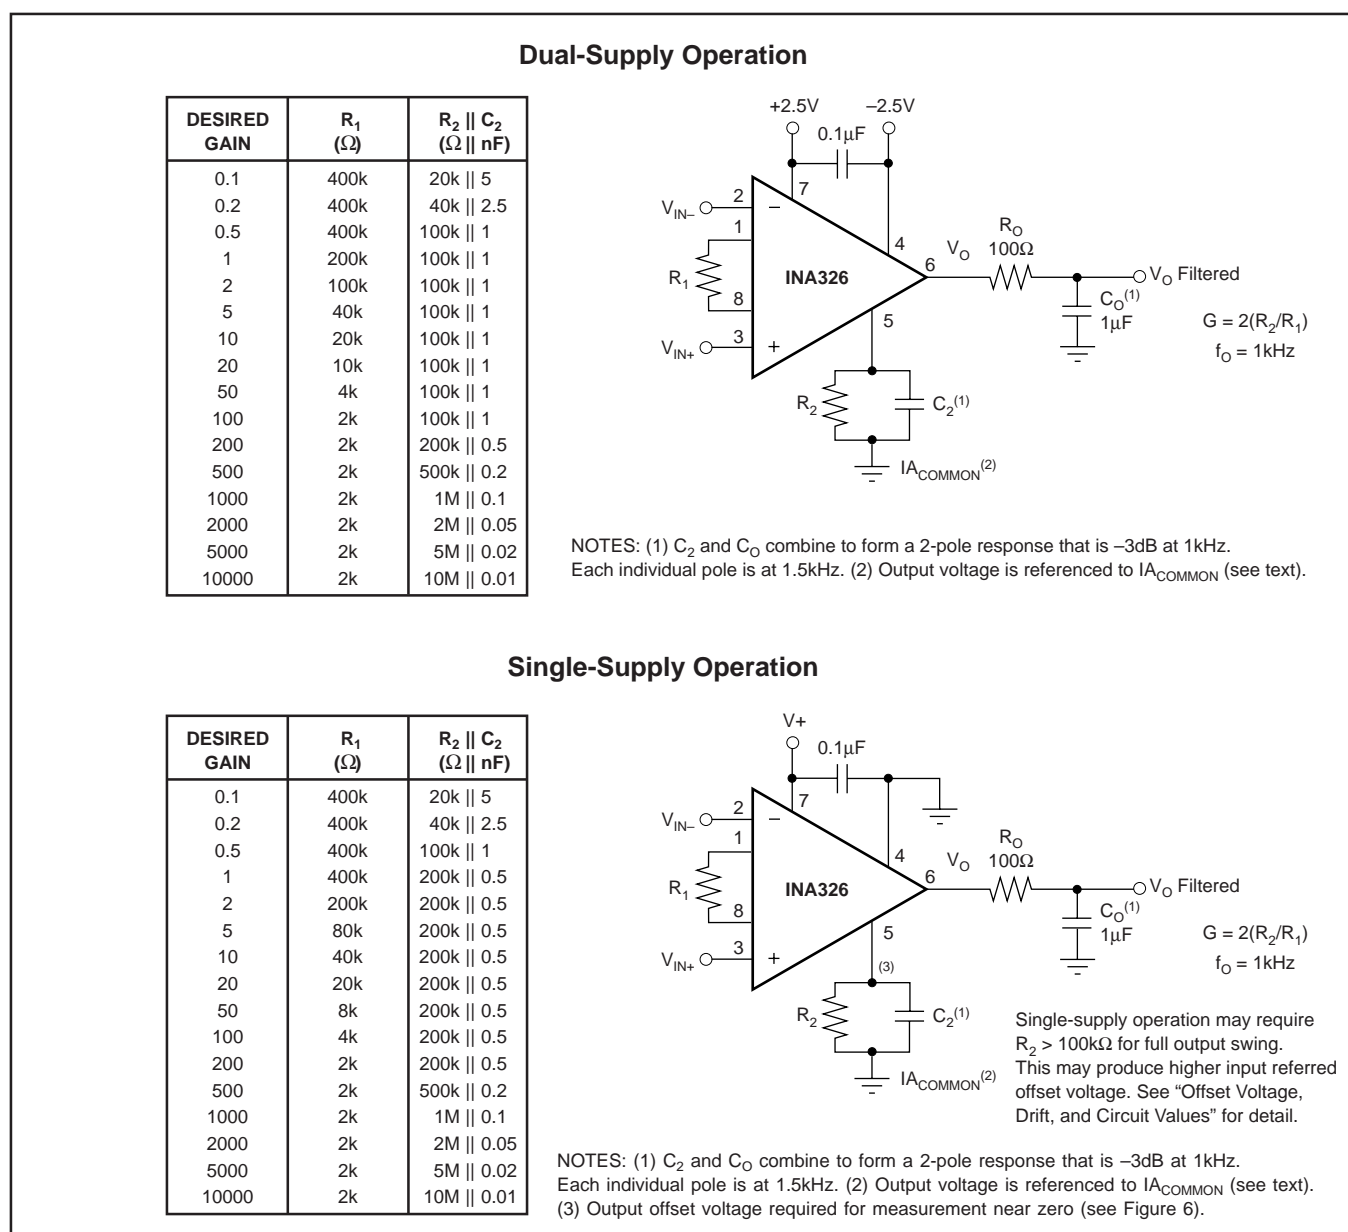

FIGURE 1. Basic Connections. NOTE: Connections for INA327 differ—see Pin Configuration for detail.
NOTES: (1) 1000-hour life test at $150^{\circ}C$ demonstrated randomly distributed variation in the range of measurement limits—approximately $10\mu V$. (2) See Applications Information section, and Figures 1 and 3. (3) Does not include error and TCR of external gain-setting resistors. (4) Dynamic response is limited by filtering. Higher bandwidths can be achieved by adjusting the filter. (5) See Typical Characteristics, "Input Offset Voltage vs Warm-Up Time".
Figure 1 shows the basic connections required for operation of the INA326. A 0.1µF capacitor, placed close to and across the power-supply pins is strongly recommended for highest accuracy. R_OC_O is an output filter that minimizes auto-correction circuitry noise. This output filter may also serve as an anti-aliasing filter ahead of an Analog-to-Digital (A/D) converter. It is also optional based on desired precision.
Resistor values for commonly used gains are shown in Figure 1. Gain-set resistor values for best performance are different for +5V single-supply and for ±2.5V dual-supply operation. Optimum value for R₁ can be calculated by:
Following this design procedure for R_1 produces the maximum possible input stage gain for best accuracy and lowest noise. Circuit layout and supply bypassing can affect performance. Minimize the stray capacitance on pins 1 and 8. Use recommended supply bypassing, including a capacitor directly from pin 7 to pin 4 (V_+ to V_-), even with dual (split) power supplies (see Figure 1).
These equations might imply that offset and drift can be minimized by making the value of R_2 much lower than the values indicated in Figure 1. These values, however, have been chosen to assure that the output current into R_2 is kept less than or equal to $\pm 25\mu A$, while maintaining R_1 's value greater than or equal to $2k\Omega$. Some applications with limited output voltage swing or low power-supply voltage may allow lower values for R_2 , thus providing lower input-referred offset voltage and offset voltage drift.